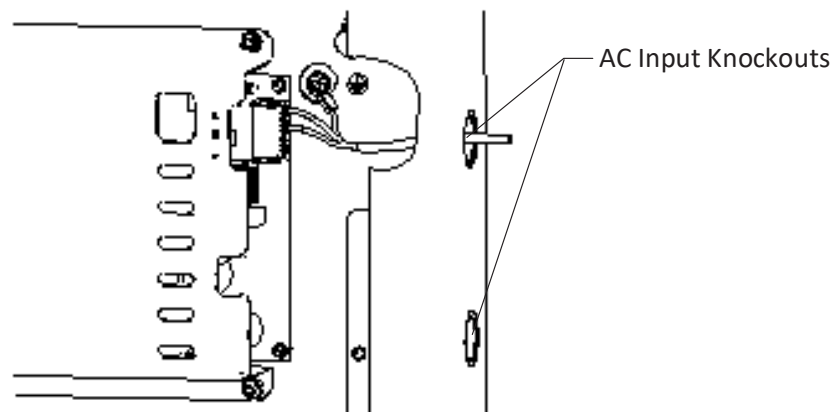

Figure 13 AC Power Supply Wiring
- Drill the hole on the position shown in Figure 13. The size of the holes shall be suitable for 1/2' or 3/4' conduit connection.